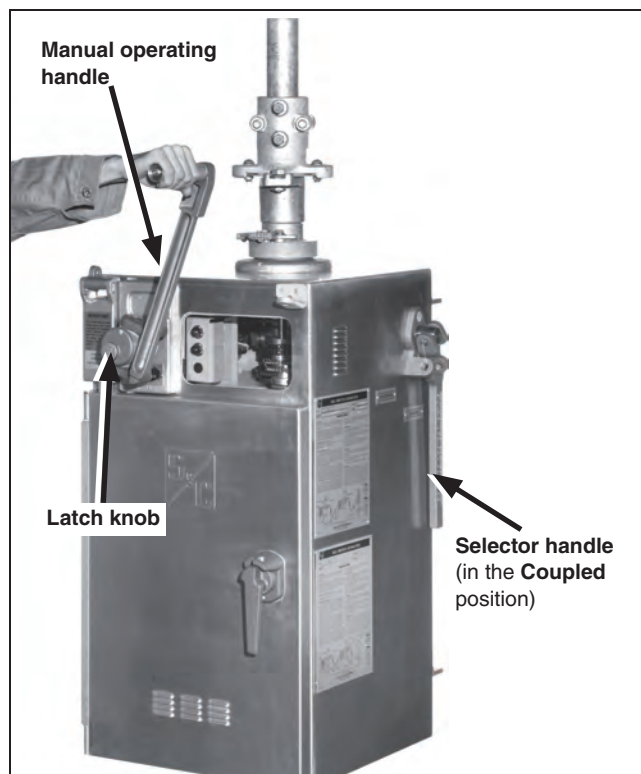

Figure 58. Manually operating the disconnect with the MANUAL OPERATING handle.
- STEP 2.** Release the latch knob while continuing to pivot the handle forward to lock it into the **Cranking** position. See Figure 58. (As the handle is pivoted forward, the motor brake is mechanically released, both leads of the control source are automatically disconnected, and both the opening and closing motor contactors are mechanically blocked in the **Open** position.)
The **SELECTOR** handle is located on the right-hand side of the switch operator enclosure. See Figure 58 on page 35.